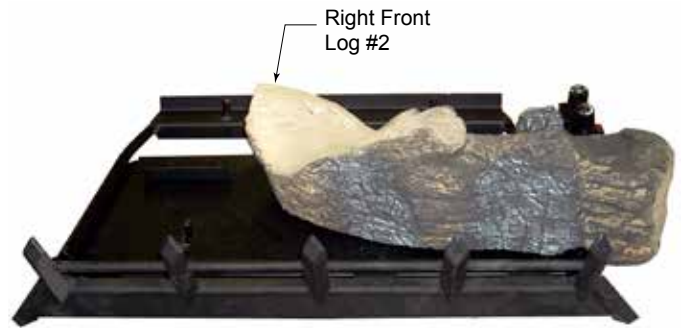

Figure 21 - Place Right Front Log #2
2. Place front right log (#2) on right pin located on burner and right grate bar. *Figure 21.* slide Log #1 forward so that it is tight against log #2.